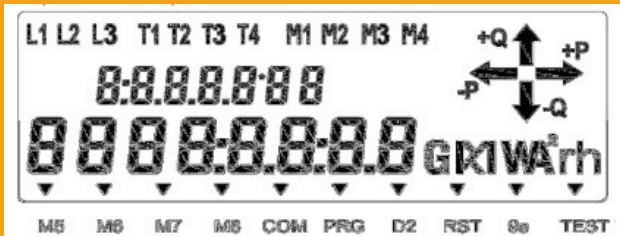

Fig.1
- Display: LCD custom design 80x30 mm as shown in Figure 1;
According to figure 1, the LCD displays the following:
- the programmed demand which is calculated as per programming (M1, M2, M3, M4, M5, M6, M7, M8, according to figure 1);